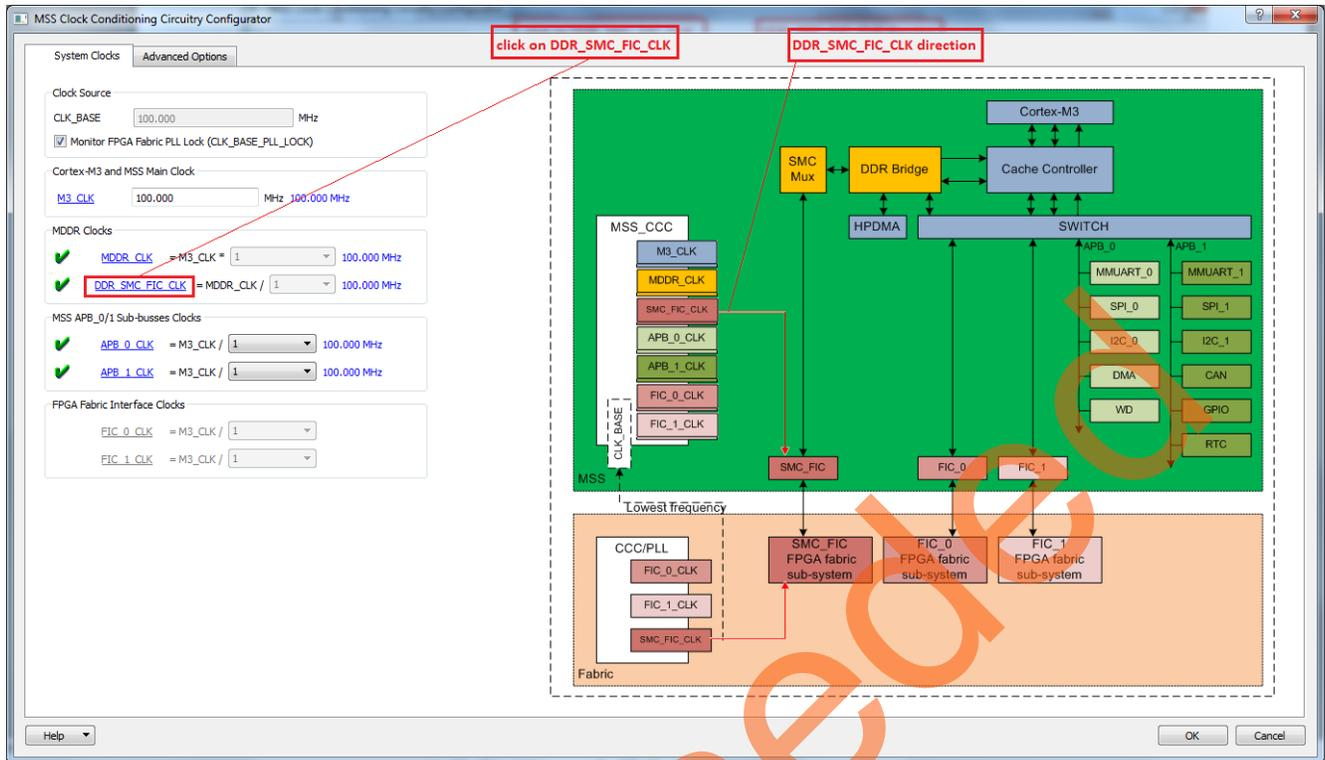

Figure 12. MSS Clock Configurator
4. Double-click the **MSS_CCC** block and configure the following as shown in Figure 12.